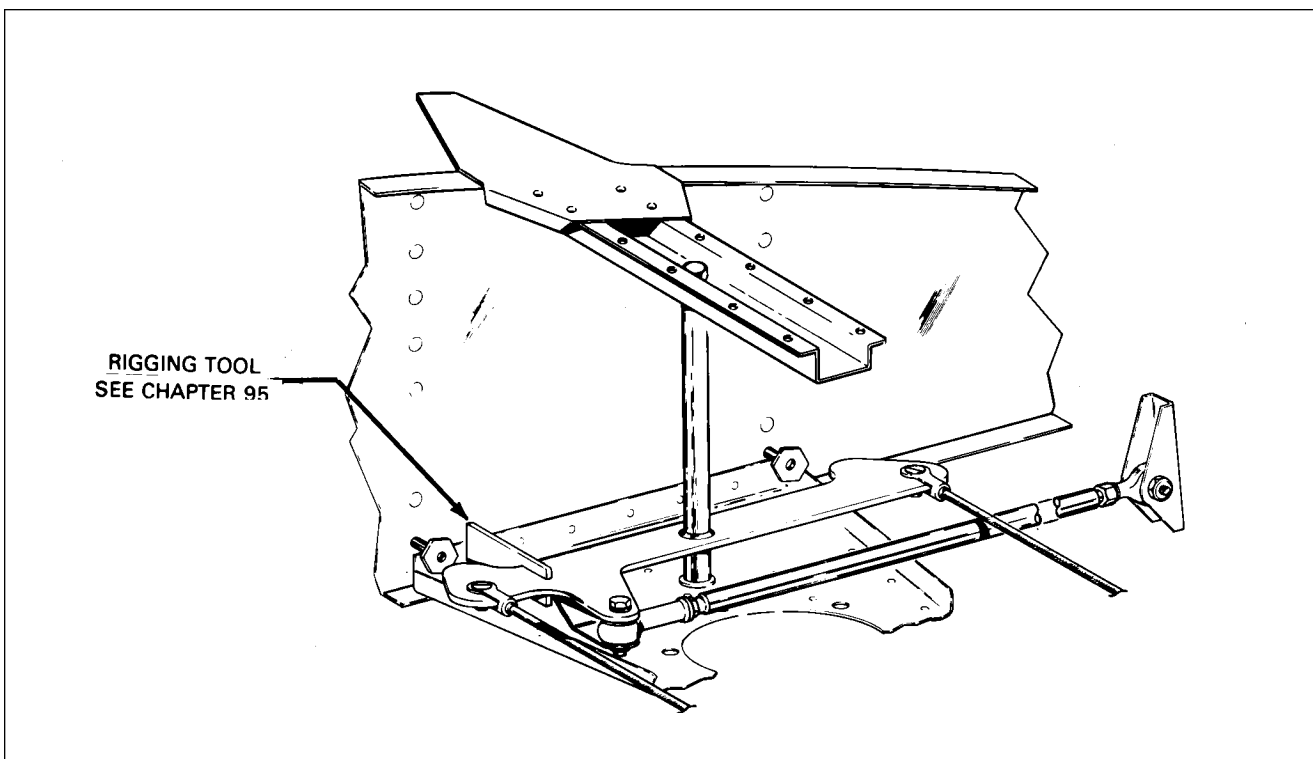

Figure 27-4. Bellcrank Rigging Tool Installed
INSTALLATION OF AILERON BELLCRANK ASSEMBLY. (Refer to Figure 27-4.)
RIGGING AND ADJUSTMENT OF AILERON CONTROLS. (Refer to Figure 27-4.)
- B. Affix a bellcrank rigging tool, as shown in Figure 27-4, between the forward arm of each bellcrank and the adjacent rib. (This tool may be fabricated from dimensions given in Chapter 95.) The slotted end of the tool fits on the arm forward of and adjacent to the primary control cable end. The other end of the tool is positioned so that the side of the tool contacts the aft side of the bellcrank stop. The bellcrank must be moved to allow a snug fit of the tool between the bellcrank arm and rib. To do so, it may be necessary to loosen a primary control cable or the balance cable. Neutral position of the bellcranks is the position at which the forward and aft cable connection holes are an equal distance from the adjacent outboard wing rib.